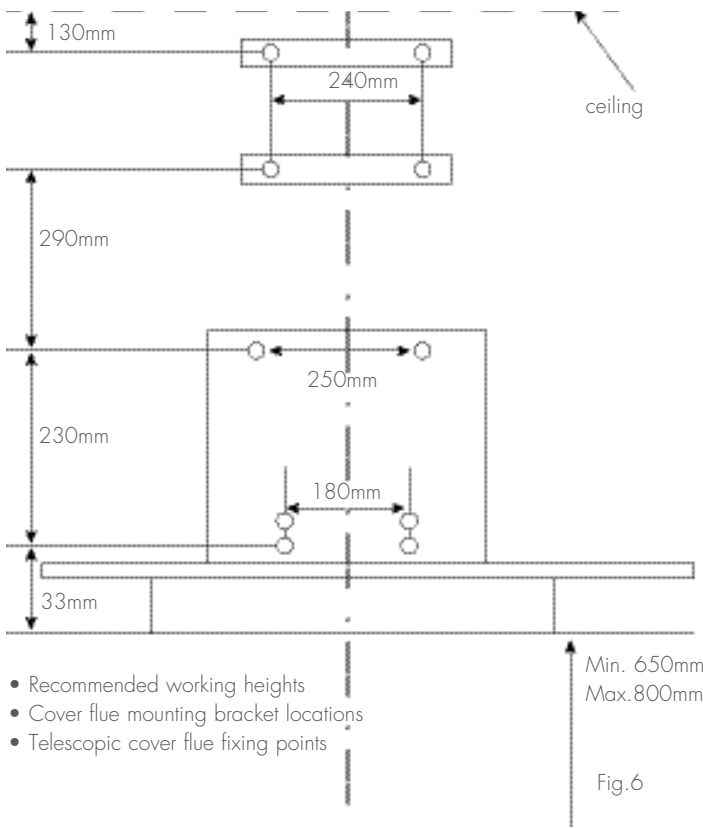

Fig.6
1. Using a spirit level mark a vertical centre line on the wall where the hood is to be positioned, and a horizontal line at the hood base position (refer Fig. 6 below).
2. Mark the location for the wall bracket fixing points above the hood base using the hood base as the reference point (refer Fig. 6 below).
3. Install wall and ceiling mounting brackets with suitable screws (to support a total weight of 30kg) to the wall at the positions marked in Fig. 6 above.
4. Remove the protective plastic film from the hood body and hang hood on the mounting brackets then secure at the anti-tilt locations as indicated in Fig 6. Depending on the preferred installation/ducting mode, follow step 5 or 6.
7. Install cover flue mounting brackets using the guidelines provided on page 6 (Fig. 6).